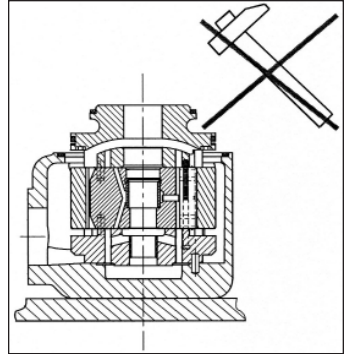

Fig. 37
**WARNING:** Never use a hammer. The cartridge is to fit into the housing without any tools. (Fig. 37)